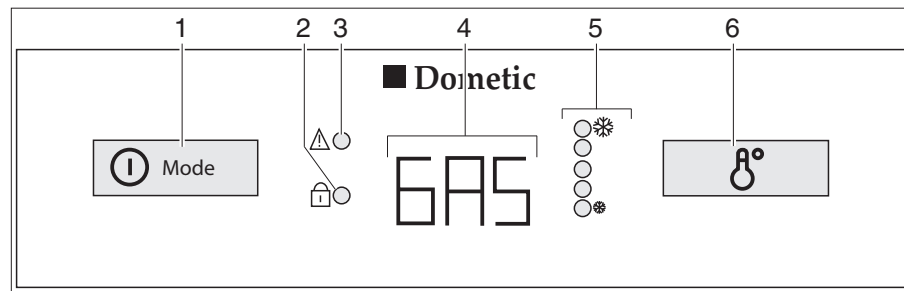

Fig. 324 Operating controls for the refrigerator (Dometic 8 series with AES)
In the case of a fault, the LED display fault will flash "⚠" (Fig. 324,3).
If the 240 V power supply is **not** connected and the vehicle's engine is **not running** the AES selects the gas supply. When selecting gas operation the ignition fuse is opened automatically so gas can get into the burner. At the same time the electronic ignition is activated. If the gas flame is extinguished, e.g. by blast of wind, the ignition is activated immediately and re-ignites the gas. In the case of a fault in gas operation the text "GAS" flashes in the operating indicator (Fig. 324,4).
When turned on the first time the refrigerator automatically selects the middle thermostat position. This position can be adjusted manually by using the switch for temperature setting (Fig. 324,6). The indicator LEDs (Fig. 324,5) show the selected thermostat position. The refrigerating temperature for the three types of energy is set with the switch. It takes a few hours till the refrigerator reaches its normal operating temperature. When changing over the operating mode the thermostat setting will be maintained. The refrigerating temperature is retained regardless of the type of power being used.
- Press the on/off switch/energy selector switch (Fig. 324,1) down for 2 seconds in order to switch on the appliance. The operating mode selected most recently is shown in the operating indicator (Fig. 324,4).
- Select the energy type with the on/off switch/energy selector switch (Fig. 324,1).
- Set the refrigerating temperature on the switch for temperature setting (Fig. 324,6). The indicator LEDs (Fig. 324,5) show the selected thermostat position.
- Press down the on/off switch/energy selector switch (Fig. 324,1) for 2 seconds. All displays close.